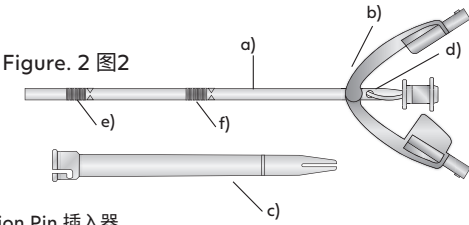

Figure. 2 图2
- 1 Provox Vega XtraSeal voice prosthesis, pre-assembled in a single use Insertion System, sterile (Fig. 2)